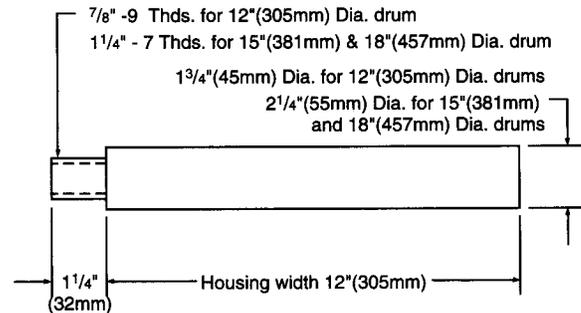

FIGURE 13
5. Screw in rod marked "F" (see Figure 13). Support both ends of shaft inside cover, slide covers off shaft.
3. Screw in rod "F" (see Figure 13).